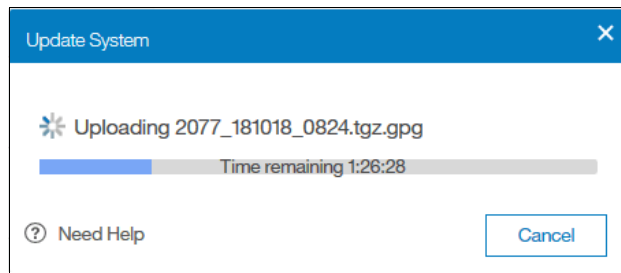

Figure 12-35 File upload
- Wait for the test utility and update package to upload to the system, as shown in Figure 12-35.